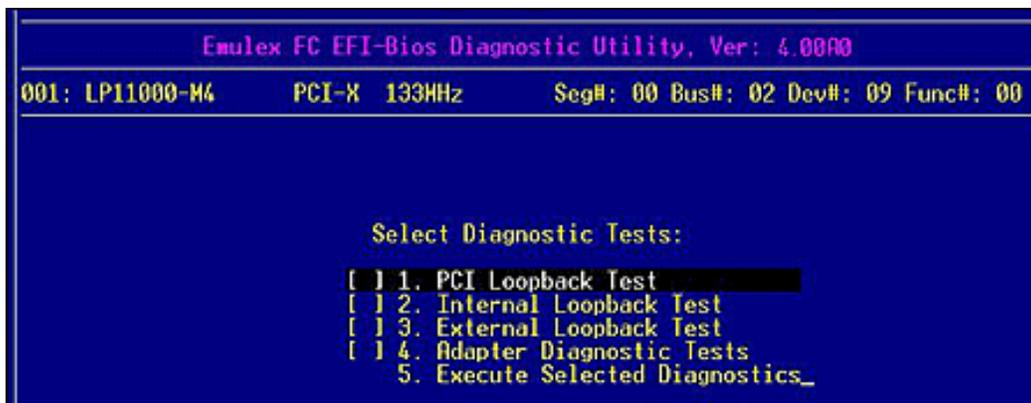

Figure 95: Diagnostic Tests menu
- On the Diagnostic Main menu (Figure 94), select **<1>. Diagnostic Tests**. Press **<Enter>**. The Diagnostic Tests menu is displayed (Figure 95).
1. Access the Diagnostic Main menu (Figure 94) and select **<1>. Diagnostic Tests**. Press **<Enter>**. The Diagnostic Tests menu is displayed (Figure 95).
The Adapter Diagnostic Tests include adapter restart, display of some configuration parameters, results of linkup and target login. These actions cannot be selected individually. If any one of these tests fail, Failed is displayed on the Diagnostic Test menu (Figure 95).